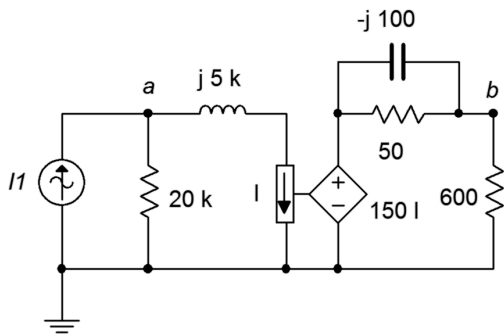

Figure 5.20
39. Determine v_a and v_b in the circuit of Figure 5.20 if the source $I = 2E-3\angle0^\circ$.
40. In the circuit of Figure 5.20, determine the current flowing into the 600 Ω resistor if $I = 1E-3\angle180^\circ$.